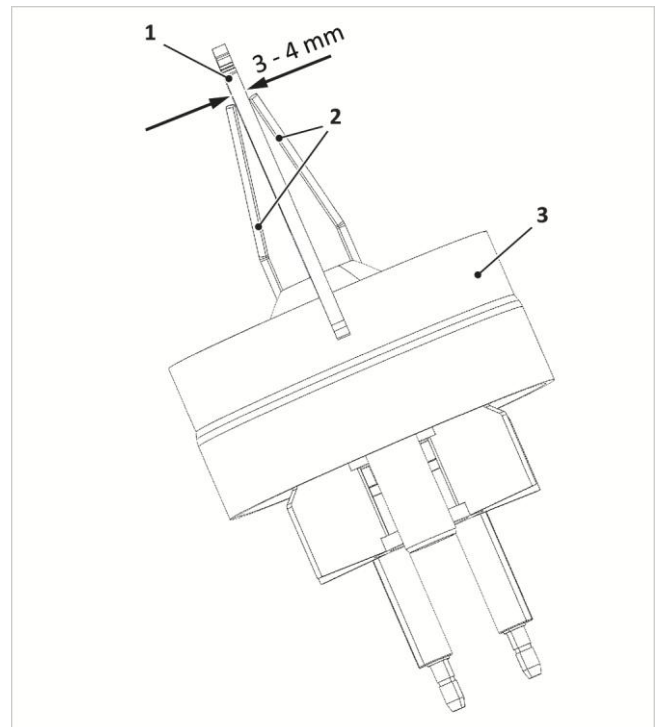

Fig. 63: Checking the ignition electrode gaps
5. Check the electrode gaps as shown in the → Fig. 63 and correct them by carefully bending them, if necessary.